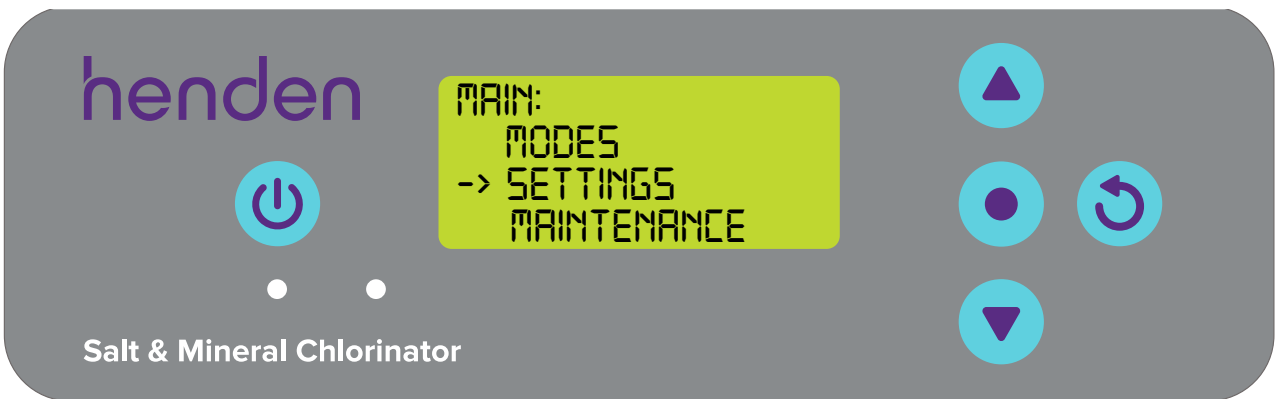

Figure 8.47
- Press the   **menu up/down** to scroll down to settings (Figure 8.47)